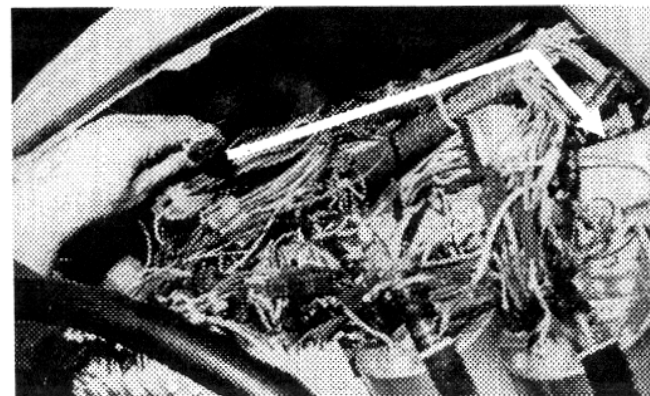

Figure 5
12. Remove the seven (7) Phillips head screws holding the instrument panel and move it away from the dashboard. Route wire harness # 06-2399 near the directional light flasher unit while following the existing wire harnesses (see figure 5).